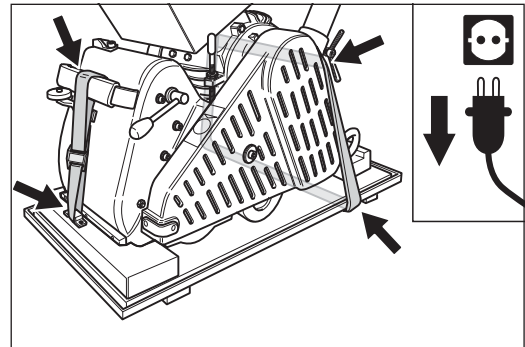

Fig. 45 Transport or storage of the machine on the bottom part of the transport crate.
- **During transport or storage, the machine can also be firmly lashed to the bottom part of the supplied transport crate using two belts (fig. 45)! This will prevent damage to the sanding drum and stop the wheels becoming out of round!**
When storing for long periods, place the machine on the bottom part of the supplied transport crate (fig. 45)! This will prevent damage to the sanding drum and stop the wheels becoming out of round!